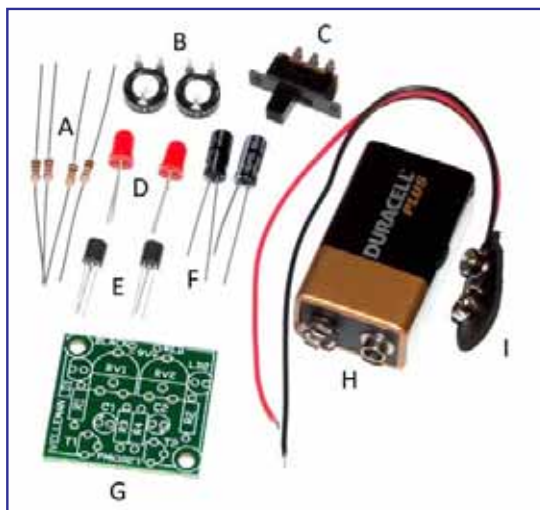

Fig.11.4. See question 11.8
11.8. Fig.11.4 shows a kit of parts needed to build a simple astable LED flasher. Identify the parts marked A to I.